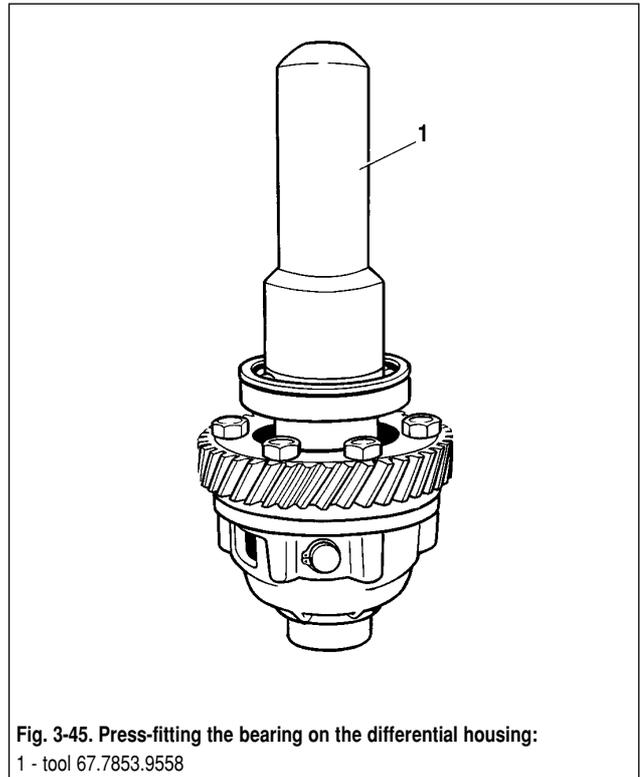

Fig. 3-45. Press-fitting the bearing on the differential housing:
- bearings are press fitted on the differential casing with tool 67.7853.9558 (see fig. 3-45);